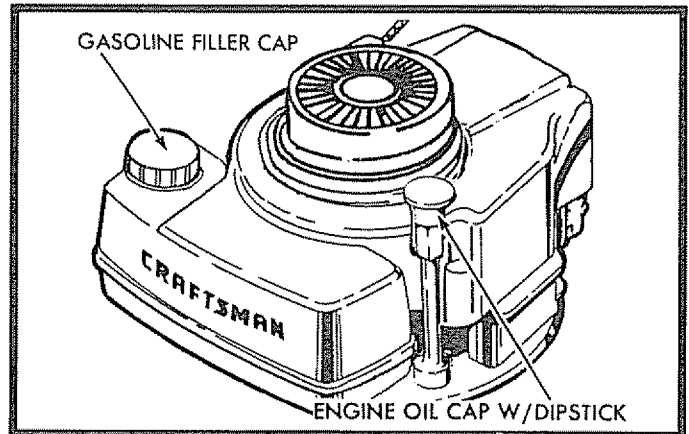

FIG. 10
- Remove engine oil cap with dipstick (See Fig. 10) and fill to the FULL line on the dipstick.
- Use about one (1) pint or 0.5 liters of SAE 30 oil or equivalent. SAE 10W 30 oil can also be used. DO NOT use SAE 10W 40 oil.
- Fill gasoline tank with fresh, clean unleaded gasoline. DO NOT USE PREMIUM GASOLINE. BE CAREFUL NOT TO OVERFILL TANK (SEE FIG. 10).